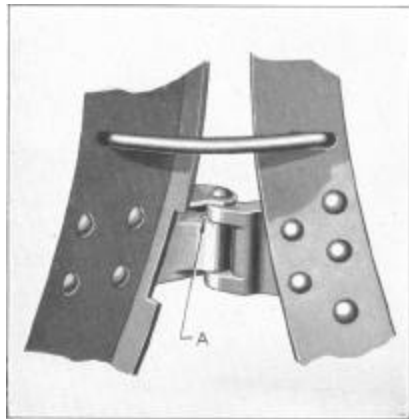

Figure 22
The door striker plates and door dovetails are fitted with lubricating wicks. These should be saturated with light oil. The door hinge pins should be lubricated with light oil. An oil pocket (A), Figure 22, is provided in the top surface of the body half of the hinge adjacent to the hinge pin and is accessible when the door is open.